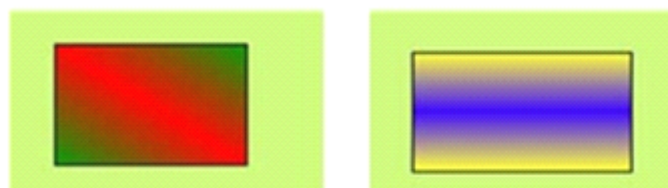

Figure 4-37: An example of a rectangle drawn
- You may adjust the properties of the rectangle using the pull-down and fine tuning button. IFCDRAW provides 15 frame line types, 10 frame line widths, and 21 filling patterns for rectangle to make the graph more beautiful and vivid. See Figure 4-37.